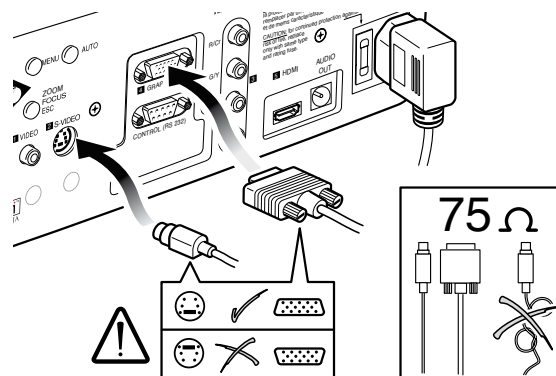

Fig. 15
- With exception of coaxial RCA/Phono type connectors, always double-check that the plug is inserted the correct way round to avoid damaging the plugs or the sockets on the projector (Fig. 15).